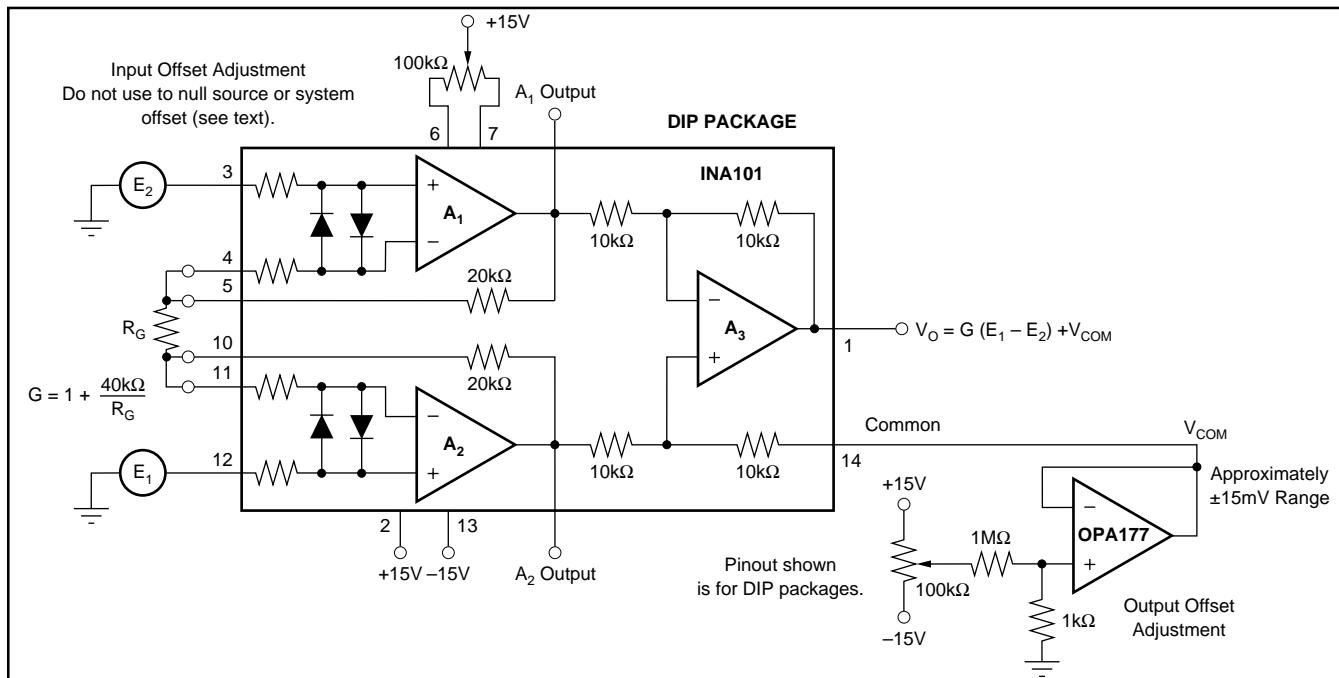

FIGURE 2. Optional Trimming of Input and Output Offset Voltage.
The stability and temperature drift of the external gain setting resistor,  $R_G$ , also affects gain.  $R_G$ 's contribution to gain accuracy and drift can be directly inferred from the gain equation (1). Low resistor values required for high gain can make wiring resistance important. Sockets add to the wiring resistance which will contribute additional gain error (possibly an unstable gain error) in gains of approximately 100 or greater. The gain sense connections on the DIP and SOL-16 packages (see Figure 2) reduce the gain error produced by wiring or socket resistance.
The INA101 is laser trimmed for low offset voltage and drift. Most applications require no external offset adjustment. Figure 2 shows connection of an optional potentiometer connected to the Offset Adjust pins for trimming the input offset voltage. (Pin numbers shown are for the DIP package.) Use this adjustment to null the offset voltage in high gain ( $G \geq 100$ ) with both inputs connected to ground. Do not use this adjustment to null offset produced by the source or other system offset since this will increase the offset voltage drift by  $0.3\mu\text{V}/^\circ\text{C}$  per  $100\mu\text{V}$  of adjusted offset.
voltage can be adjusted with the optional trim circuit connected to the Common pin as shown in Figure 2. The voltage applied to Common terminal is summed with the output. Low impedance must be maintained at this node to assure good common-mode rejection. The op amp connected as a buffer provides low impedance.